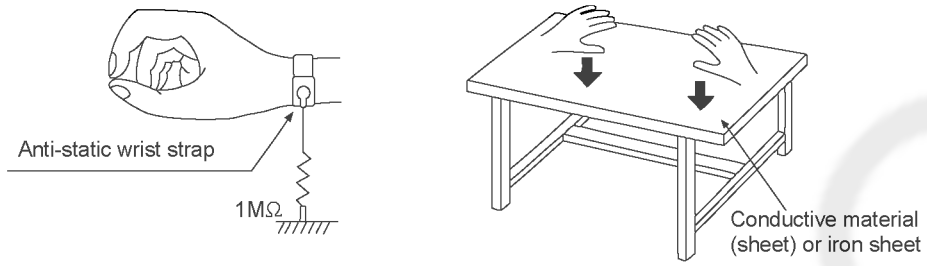

Figure 2-3
- Use the anti-static wrist strap to discharge the static electricity form your body Figure 2-3.